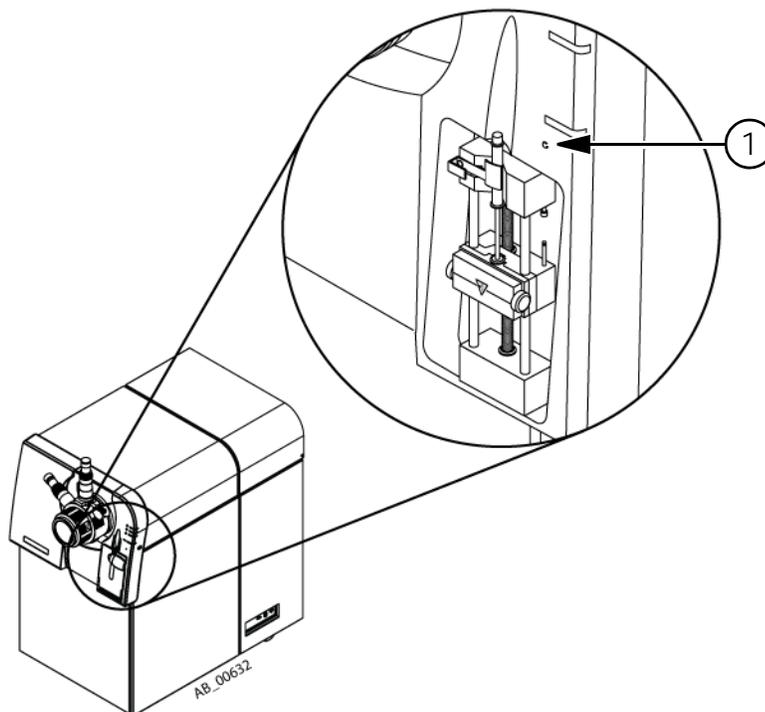

Figure 1-8 Syringe pump reset button
- Use a paper clip or similar tool to press the reset button, shown in Figure 1-8.